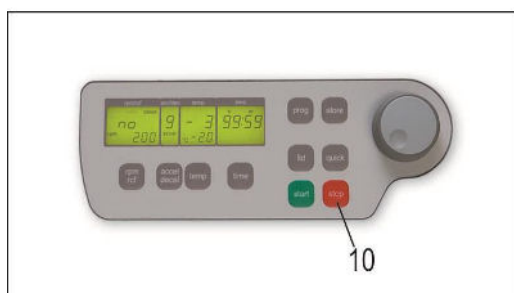

Figure 31
With the "stop" key (10) the run time can be interrupted at any time (see Figure 31). After pressing the key, the centrifuge decelerates with the respective pre-selected intensity down to a standstill.